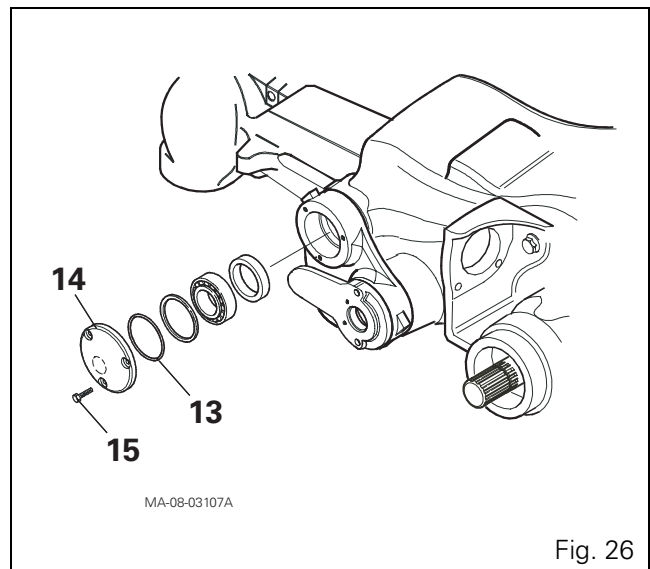

Fig. 26
Remove the covers from pins (14) on the side of the pinion. Insert the shims selected in step 26 and a new "O" ring (13) (Fig. 26).
Refit the cover (14) after packing its cavities with plenty of grease (Fig. 26).
28. Remove the pin covers (14) on the side of the pinion, fit a new "O" ring (13).